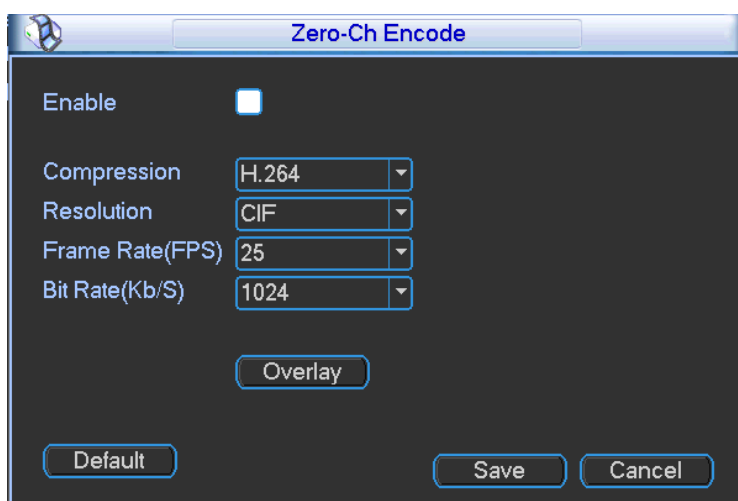

Figure 4-64
- Zero-Channel Encoding (Multiple-Preview) : Click Setup button, you can go to the following interface. See Figure 4-64. Here you can enable and set zero-channel encoding function so that you can view several video sources at one channel.